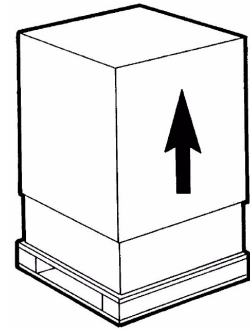

FIGURE 1
1. Cut the straps from the box and lift it up off the machine (see Figure 1).